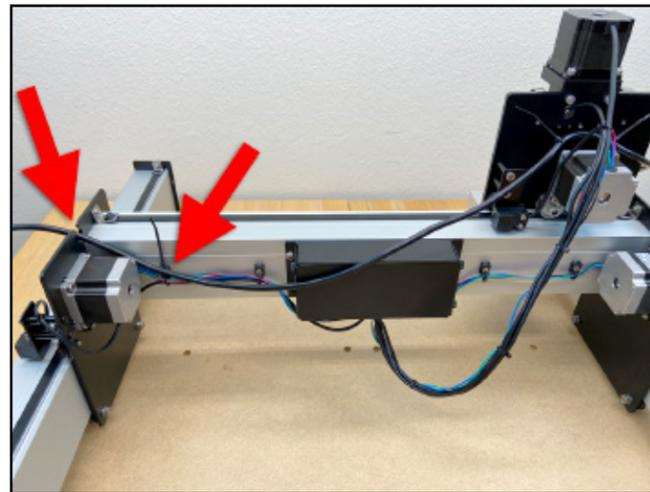

Figure 8-6
3. Position the Z-Plus next to the Y1-carriage, and loosely extend the power cord across the machine and through the cutout at the top of the Y2-carriage. See **Figure 8-6**.
4. Use one (1) cable tie to secure the power cord to the cable tie mount closest to the Y2-carriage. Use the available upper attachment point. See **Figure 8-6**.